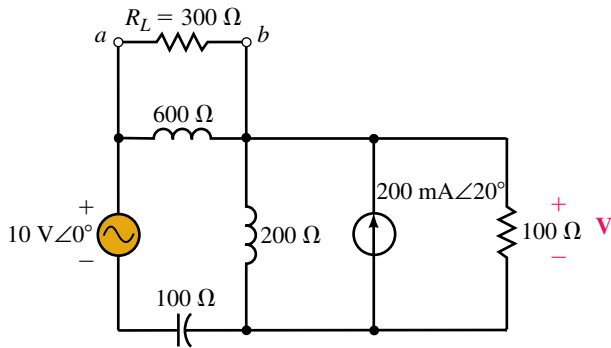

FIGURE 20-70
5. Consider the circuit of Figure 20-70.